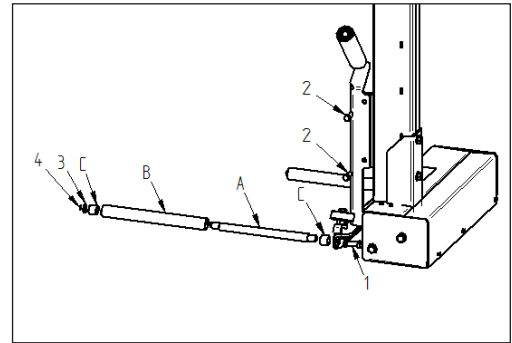

Fig. 4:
- Assembly according to figure 4